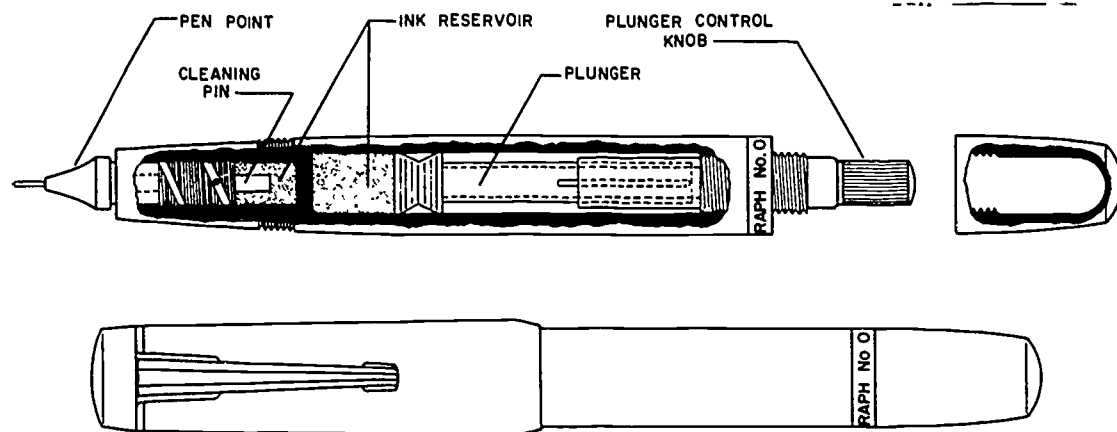

Figure 3-25. Technical fountain pen.
**Technical Fountain Pens.** Several manufacturers make technical fountain pens. These pens are very convenient for ink lettering and ink drawing. The advantages of these pens over ordinary pens is their great ink holding capacity. We will look at the main parts of the pen: the point assembly, the head assembly, and the ink reservoir (see fig. 3-25).